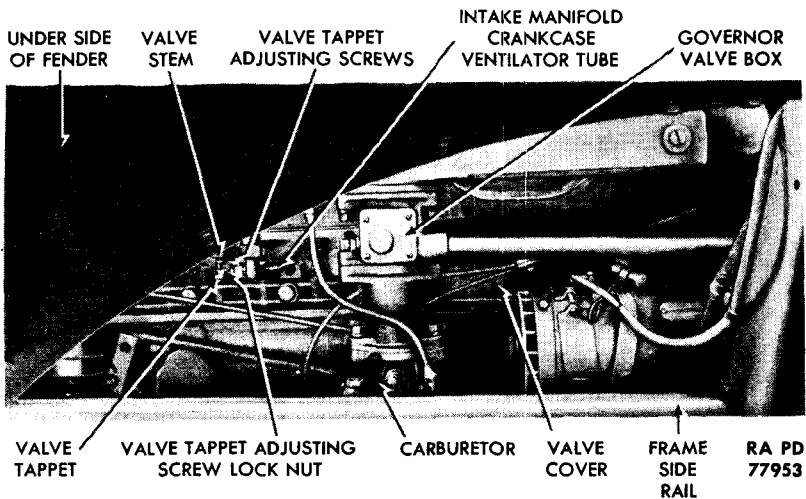

Figure 14 – Valve Tappet Adjustment Provisions
b. **Disconnect Intake Manifold Crankcase Ventilator Tube** (fig. 14). Unscrew tube from valve on intake manifold.
c. **Remove Valve Covers** (fig. 14). Remove the four valve cover screws, and lift the two valve covers and two gaskets from the cylinder block.
e. **Adjust Tappets** (fig. 14). Beginning at either end of engine, the valves are: exhaust, intake, intake, exhaust, exhaust, intake, intake, exhaust, exhaust, intake, intake, and exhaust, respectively. Beginning with the valve at the extreme front of the engine, loosen the adjusting screw lock nut. Insert a 0.010-inch feeler gage between the lower end of the valve stem and the valve tappet adjusting screw. Turn valve tappet adjusting screw into or out of the valve tappet, until just a light drag can be felt on the feeler gage as it is pulled from between the valve stem and valve tappet adjusting screw. Hold the valve tappet adjusting screw to keep it from turning, and tighten the adjusting screw lock nut. Repeat the process to adjust each of the other valve tappets. Proper clearance for exhaust valves is 0.010 inch, and for the intake valves 0.006 inch.
g. **Replace Valve Covers** (fig. 14). Place valve cover gaskets in position on cylinder block. Place valve covers in position on gaskets. Install the four valve cover flat washers and screws.
h. **Connect Intake Manifold Crankcase Ventilator Tube** (fig. 14). Install tube to valve on intake manifold.
(7) **DISCONNECT INTAKE MANIFOLD CRANKCASE VENTILATOR TUBE** (fig. 14). Detach ventilator tube from ventilator valve on the bottom of the intake manifold.
(2) **CONNECT INTAKE MANIFOLD CRANKCASE VENTILATOR TUBE** (fig. 14). Attach ventilator tube to ventilator valve at the bottom of the intake manifold.
(3) **ATTACH GOVERNOR VALVE BOX** (fig. 14). Place new valve box gasket, valve box, and attached carburetor in position on the intake manifold, and secure with the two cap screws.